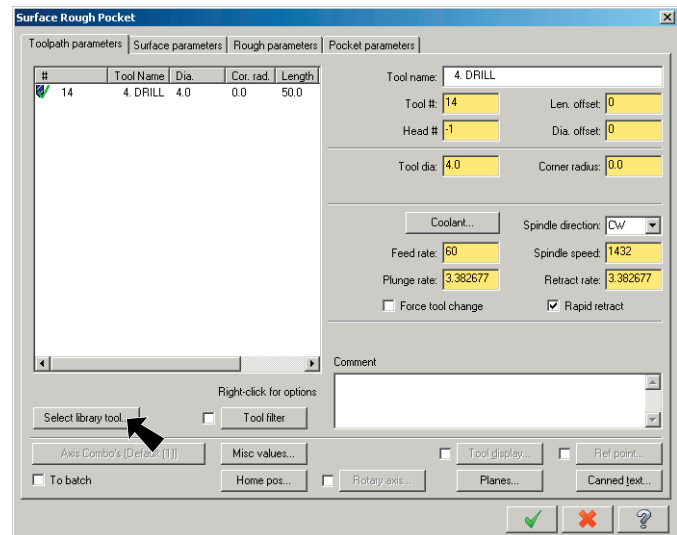

Fig. 26
Step 1. Click **Select library tool** button, **Fig. 26**.